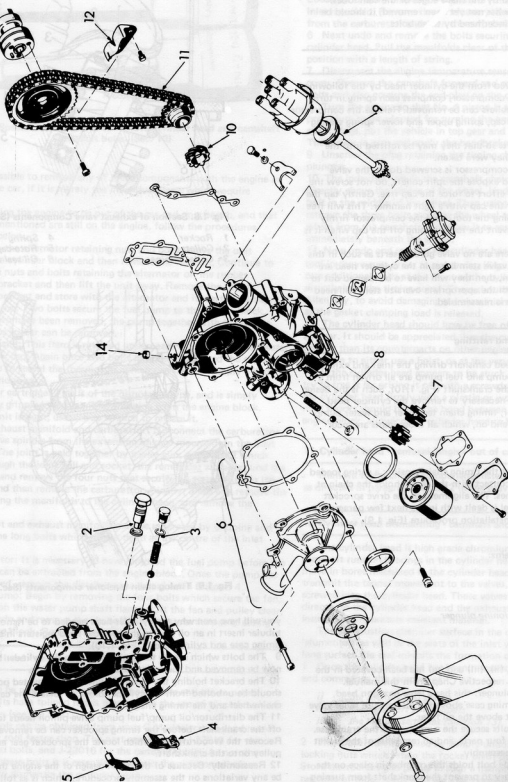

Fig. 1.10. Exploded view of timing cover and components. (Sec. 14)
- 1 The engine has an overhead camshaft driving the inlet and exhaust valves. The distributor, oil pump and fuel pump are all driven from a gear on the forward end of the crankshaft (Fig. 1.10). Such is the design of the engine, that it will be necessary to remove the cylinder head, sump, fuel pump, distributor, timing chain tensioner and water pump before the timing cover (in, and on, which all those items are incorporated), can be removed.
you will have seen why the cylinder head needed to be removed, a small tubular insert in an oil way to the cylinder head registers in both the timing case and cylinder head (Fig. 1.10).